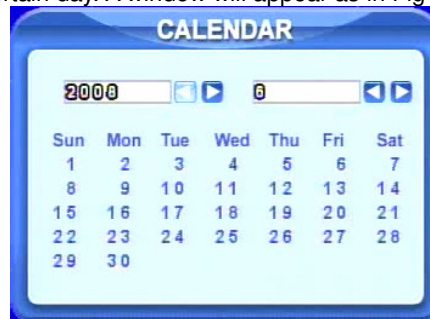

Fig 3.9 Calendar
STEP3 Press Add button to select the date if you want to setup a special schedule for a certain day. A window will appear as in Fig 3.9 Calendar.